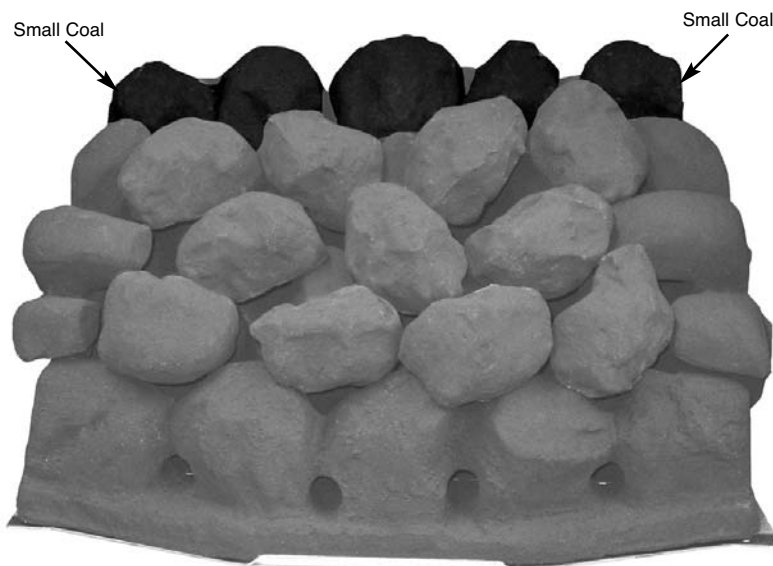

Fig. 26
8. Place the next three coals in the middle, on the back edge of the coals previously laid ensuring even gaps all round. Finally place the two small coals, one in each top corner. Make any adjustments necessary to achieve even gaps as this will help in giving a well balanced flame picture and an even glow (Fig. 26).